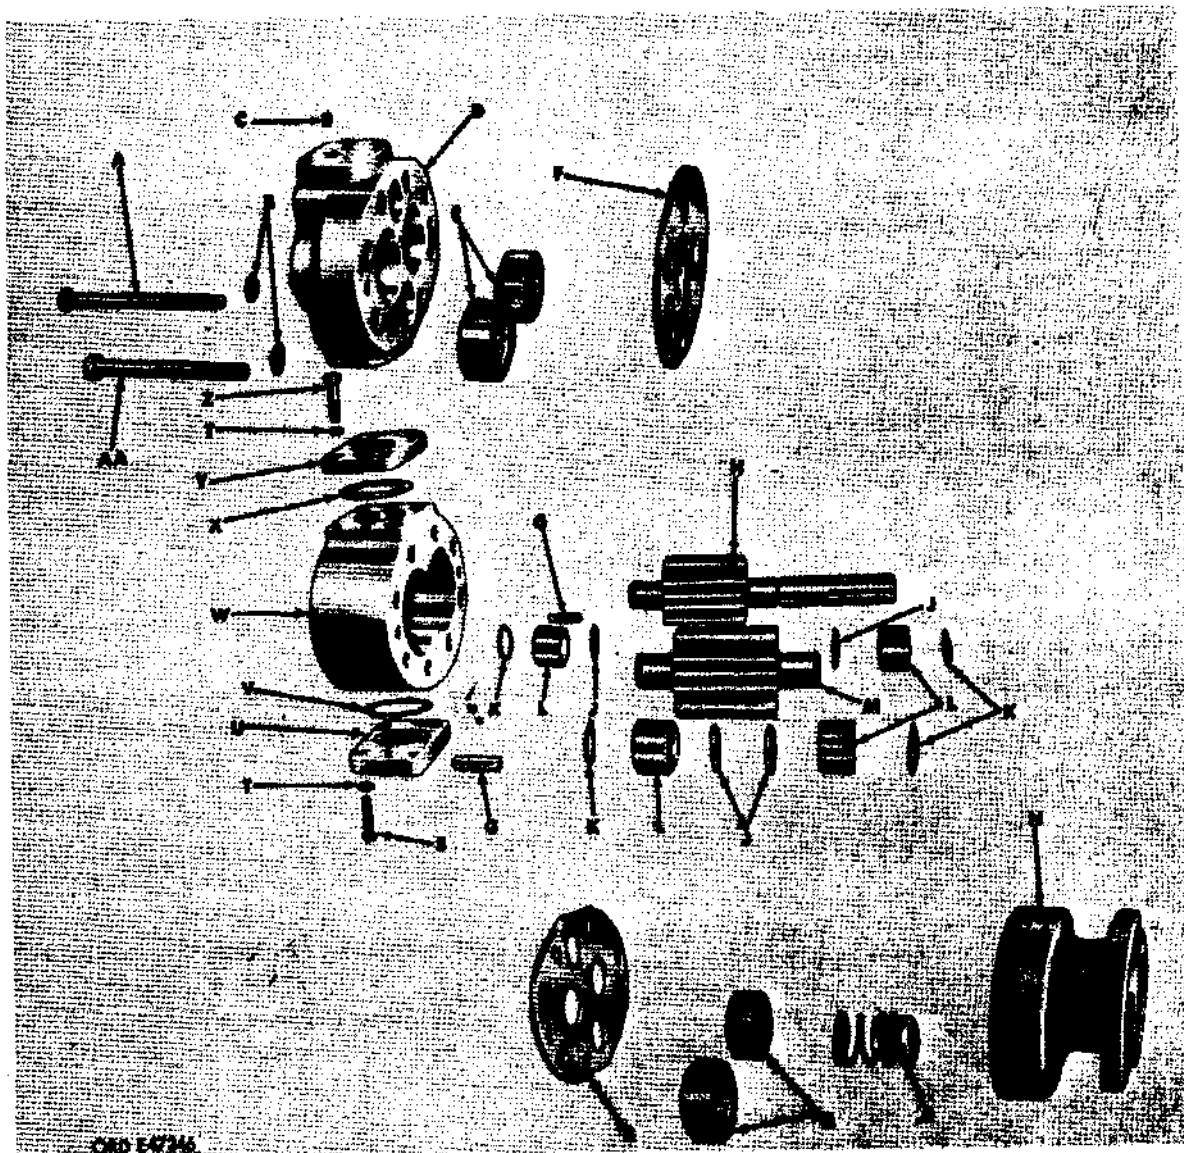

Figure 557. Hydraulic oil pump assembly - exploded view
a. Disassembly (Fig. 557).
- (1) Remove the eight bolts (A and Z) and flat washers (B) holding rear cover